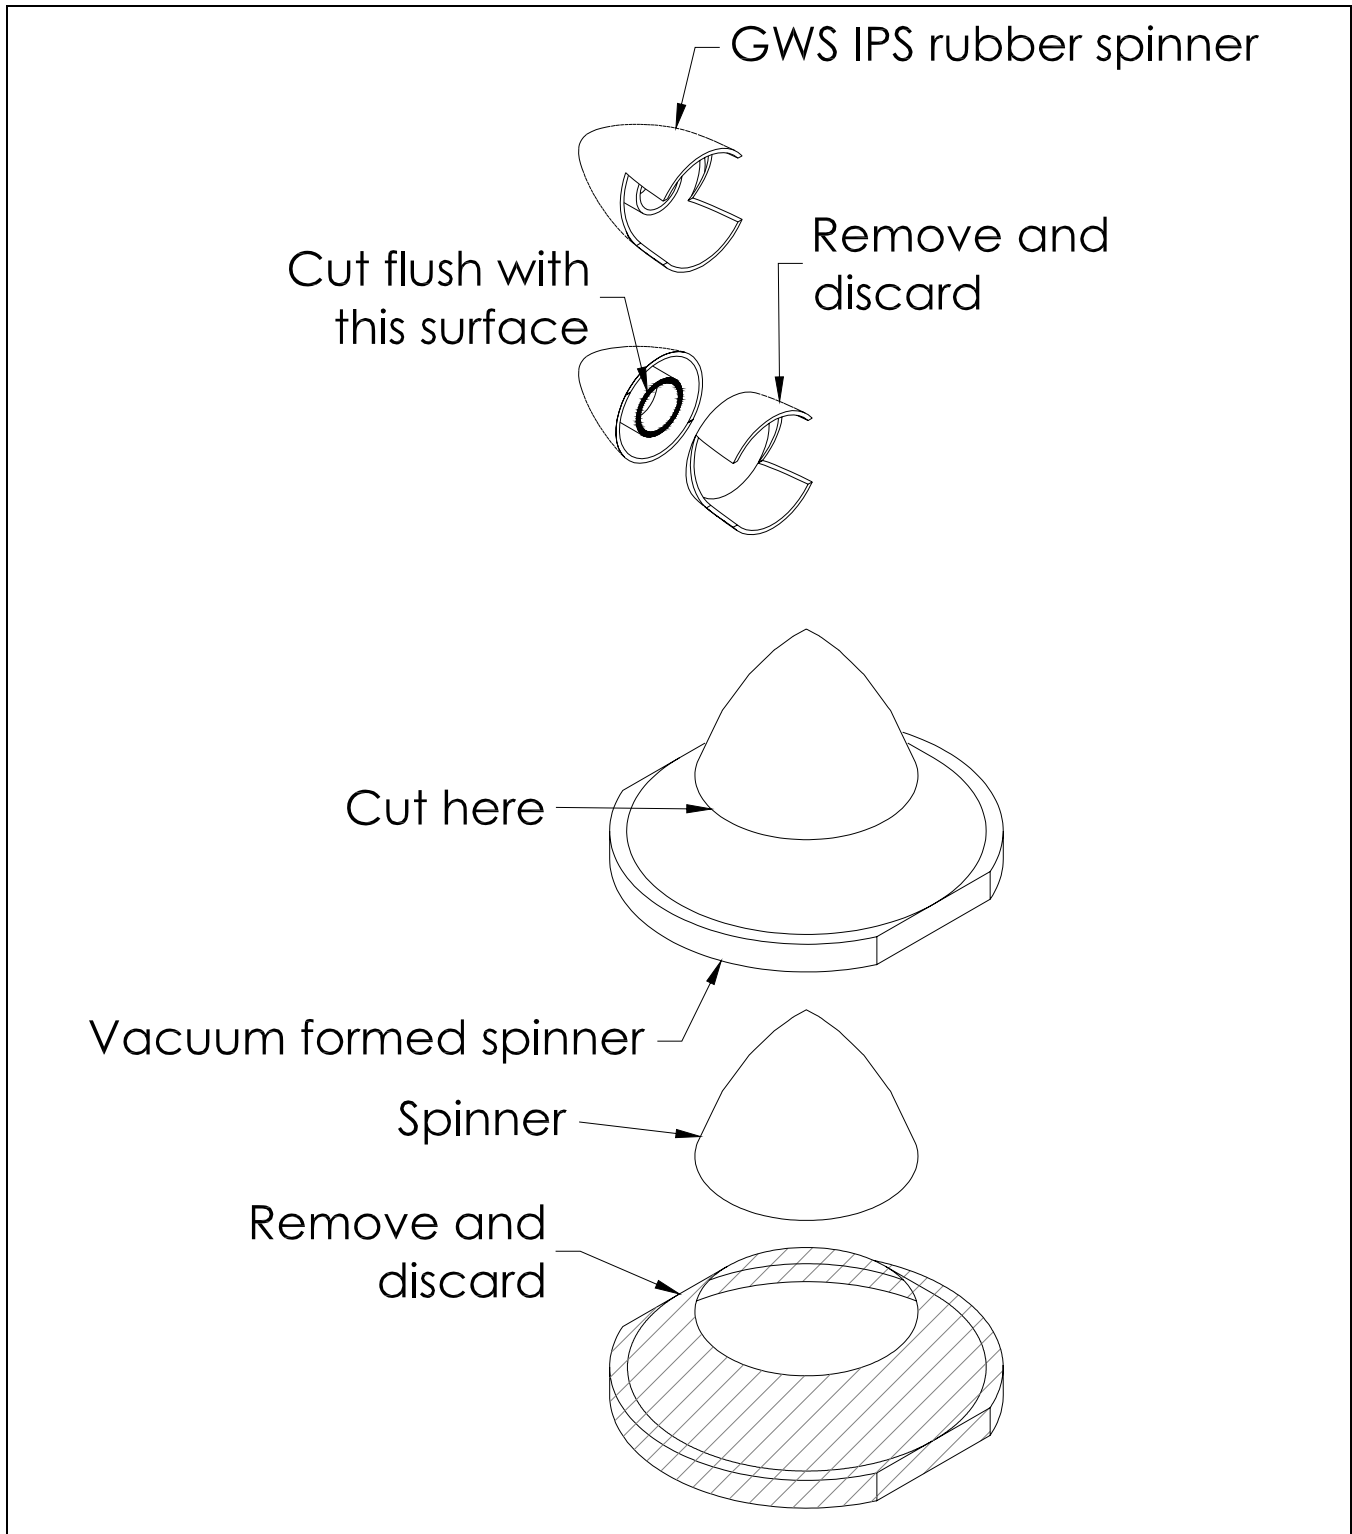

Figure 39
- ❑ Modify the GWS IPS rubber spinner included with your IPS to match what is illustrated in Figure 39.
- ❑ Trim the plastic vacuum formed spinner to match what is illustrated in Figure 39.